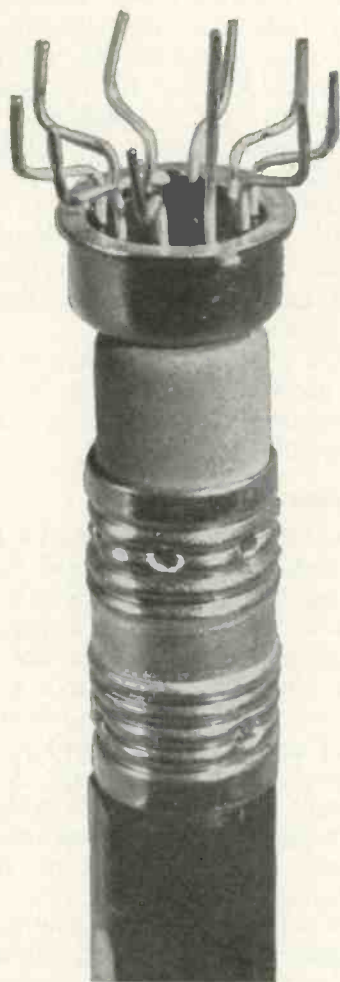

Fig. 1—The integrated circuit currently used in many TV sets is so small it can be placed on the end of a pencil.
■ A line of TV sets currently on the market uses an integrated circuit, IC201, in the sound IF and audio circuits. The silicon chip upon which this circuit is grown measures less than 0.05in. and, when in its case, the IC201 is not much larger than the end of a pencil (Fig. 1).